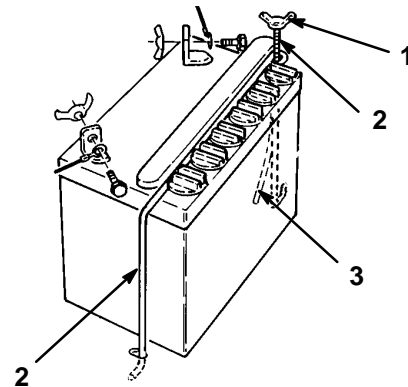

Figure 14
2. Remove wing nut securing battery hold downs to rider chassis (Fig.14).
3. Disconnect the negative (black) ground cable from the battery post (Fig. 14).
4. Lift the rubber cover up on the positive (red) cable. Disconnect the positive (red) cable from the battery post (Fig. 14).
5. Remove wing nut securing battery hold downs to rider chassis (Fig.14).